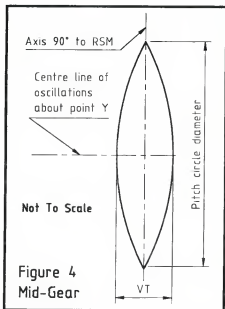
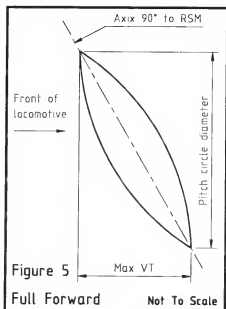

Figure 4
Figure 5
and  $F^1M^1R^1$  to select full forward or full reverse. (Notching-up selects a position somewhere in between). When in motion, radius rod (RR) is driven by the eccentric pin (EP) which follows the pitch circle created by the return crank. RR in turn drives the anchor link (AL), which is pivoted at M, to create the arc UXD as shown in Figure 3. Valve travel is derived from the valve rod (VR) positioned on the radius rod at Y which converts the oscillating movement into reciprocating movement. The distance of Y from X on the radius rod determines the lap and lead. When in mid-gear, RSM must be parallel to the valve spindle (VS) and as with Walschaerts valve gear, the valve travel is equivalent to lap and lead. The movement of point Y in mid-gear is approximately oval shaped (Figure 4) and when in full gear the oval shaped movement of point Y becomes elongated to impart the required valve travel. Figures 5 and 6 show the